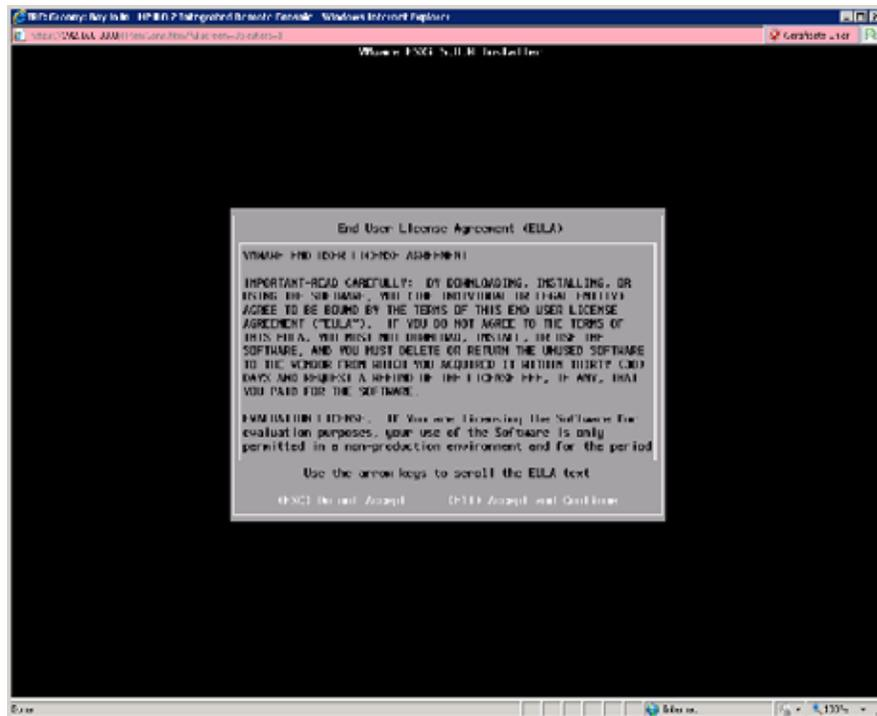

Figure 5 End User License Agreement for ESXi 5.0
Step 3 As part of the boot sequence, you must acknowledge license agreement. See Figure 5 on page 35.